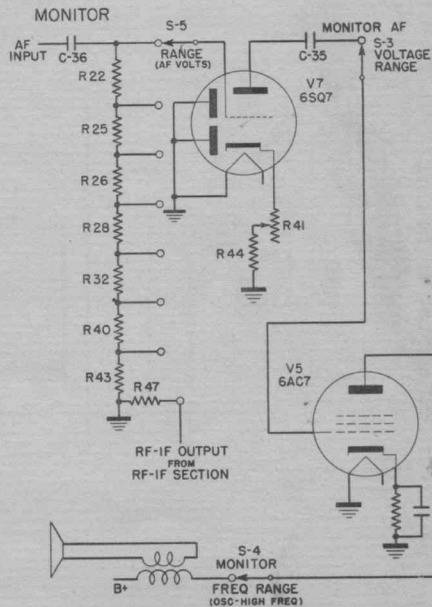

Figure 2.7 - AF-RF-IF Monitoring Circuit
a. AF Monitoring - Figure 2.7 illustrates the circuit utilized in monitoring the a-f or r-f i-f channels with the self-incorporated speaker. The a-f input is fed to the RANGE (AF VOLTS) switch, S5, its position in the voltage